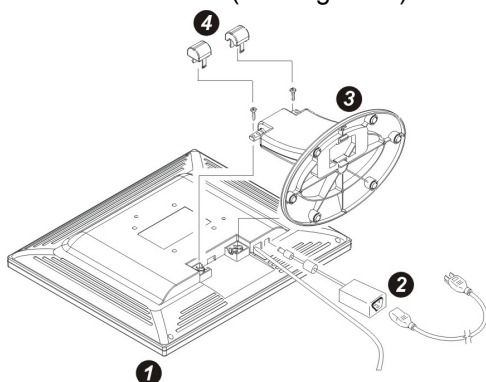

Figure 6: Preparing to Install an Optional Wall-Mounting Arm
- 2 Pull the screw covers off the back of the monitor. (See Figure 6.)
- 4 Remove the base. (See Figure 6.)